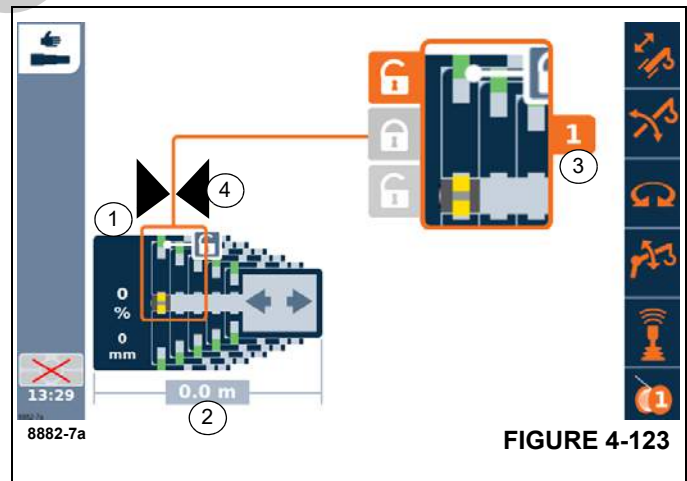

FIGURE 4-123
The display (1), (Figure 4-123) shows how far the telescoping cylinder is extended, e.g. 0%.